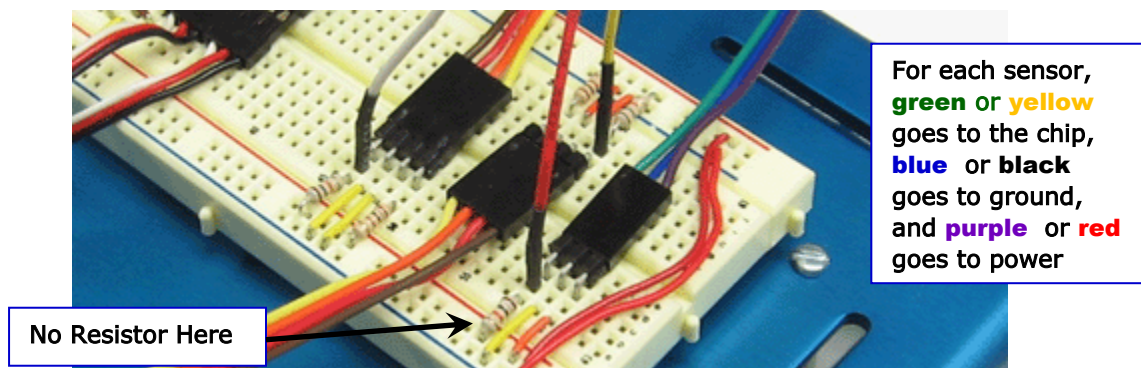

Figure 11. Connecting flexible jump wires to microcontroller.
*(connect the free end of the flexible jump wires from the downward sensors to **Port A1**, and to **Port A2**, if you have wired the down sensors.) See Figure 11.*